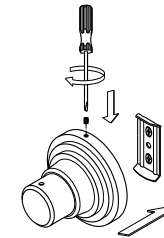

Fig. 6
- Step 6. Place the mounting unit against the mounting plate that is installed to the wall surface. Above the mounting unit there is a small screw hole, tighten the set screw with a flathead screwdriver until it is securely fixed to the wall (Fig 6).